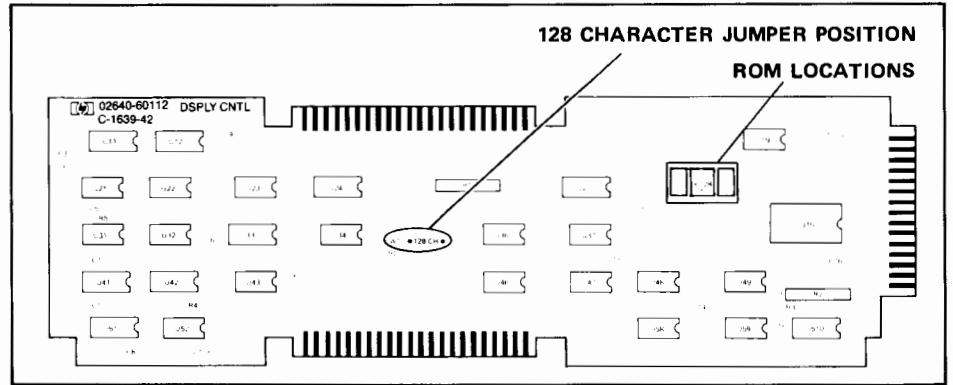

Figure 2-12. Display Control PCA Jumper and ROM Locations
4. Using figure 2-12 as a guide, locate the 128 CH jumper W1 position and solder in a jumper. (If the board uses a jumper socket or switch, insert a jumper or make the proper setting.)
5. Locate the vacant lower case ROM socket XU28 (figure 2-12).